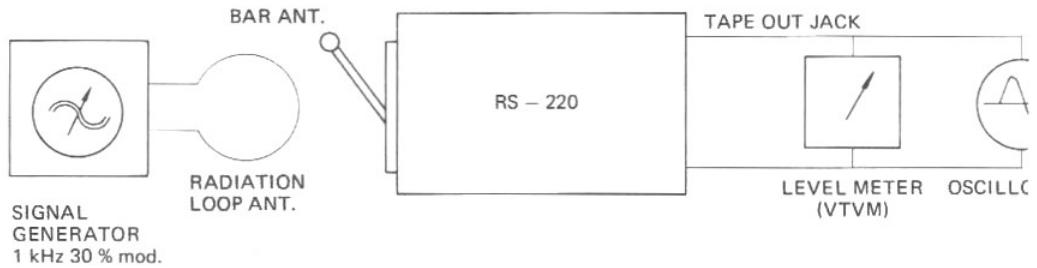

Figure 2. AM FRONT END ALIGNMENT SETUP.
- 2) Connect the test equipment to RS-220 as shown in Figure 2.